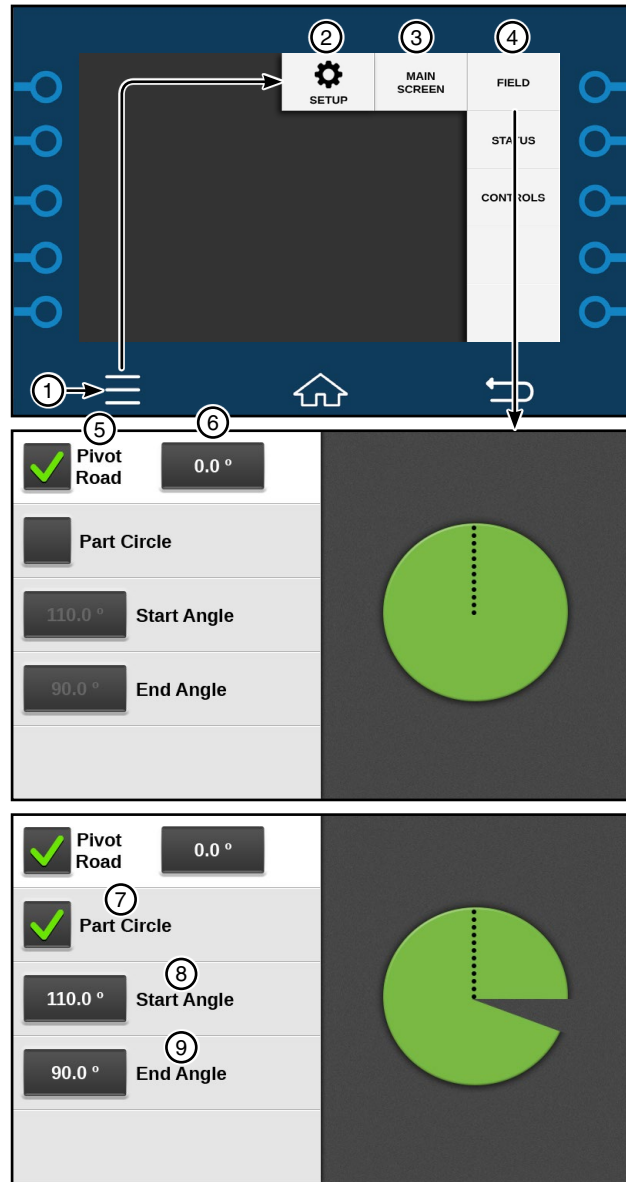

Figure 34-1 1. Menu 5. Pivot Road Checkbox
1. On the Field screen, you can add the pivot road, enable or disable part circle and configure part circle angles. See Figure 34-1.